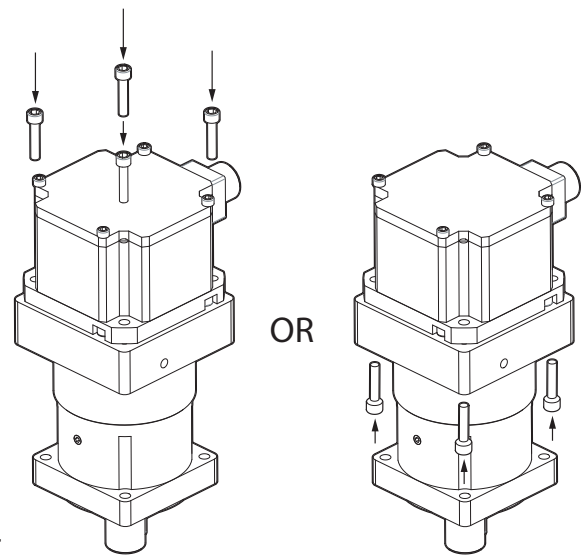

Figure 4
- 4) Install the mounting screws to ensure alignment of the motor to the gearbox. Initially tighten the mounting screws in a cross pattern to 5% of the required torque for the mounting screws. If possible, mount the motor to the gearbox in a vertical position (Figure 4).
- 6) Tighten the mounting screws (Figure 4) to the specified torque.